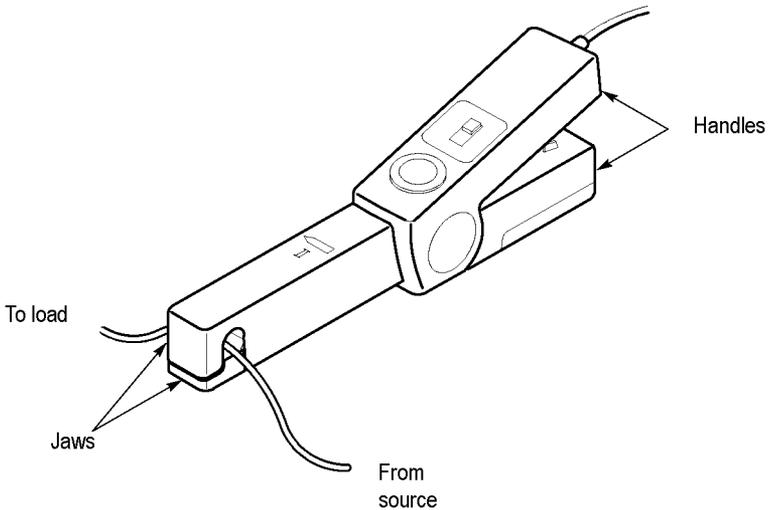

Figure 2: Connecting the A622 current probe
4. Connect the probe to the circuit by opening the jaws and clamping around the conductor. See Figure 2: Connecting the A622 current probe on page 4.